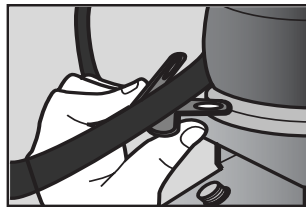

Figure 18
Slide the provided clip (P) onto the rubber coated brake line (Fig. 18). Secure the clip (P) to the clinch bolt already installed on the lower bracket (F) with a flat washer (M) and 5/16" nut (N).